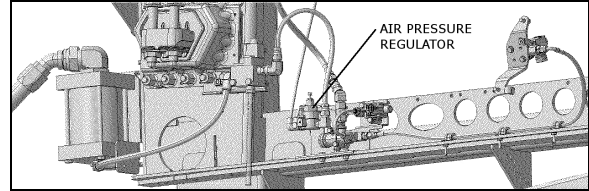

FIGURE 9: AIR PRESSURE REGULATOR (TYPICAL) 07130
18. Adjust the retarder pressure to 85 ± 3 psi with the air pressure regulator. For more information refer to Section 12, "BRAKE AND AIR SYSTEM", under heading "AIR PRESSURE REGULATOR". The air pressure regulator is located in the engine compartment, on engine cradle R.H. side (Fig. 9).